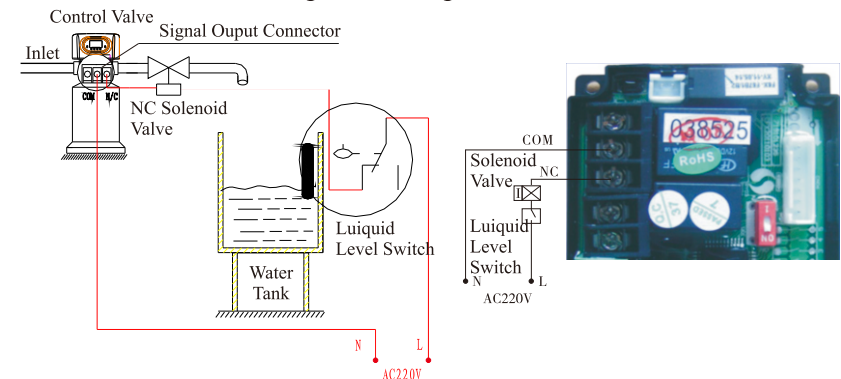

Figure 3-1 Wiring of Solenoid Valve on Outlet
① Solenoid Valve on Outlet Controls Water Level in Water Tank (Set b-01)
**Instruction:** If system strictly requires no unfiltered water flowing from outlet in rinsing cycle (Mainly for no unfiltered water flows out when valve is switching. When valve in backwash positions, there is no unfiltered water flows from outlet), a solenoid valve could be installed on outlet, the wiring refers to Figure 3-1.